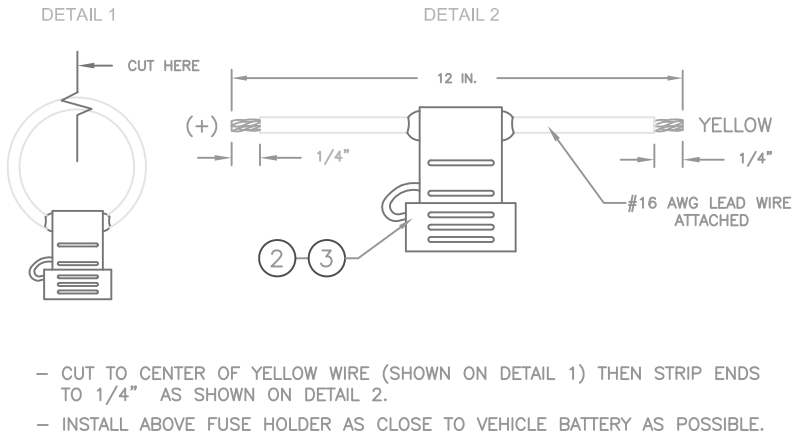

FIGURE 2
- 2. Install the dc power cable to the splitter box. Using the supplied barrel crimp (item 3), attach the fuse holder (item 2) as close to the battery as possible as shown in figure 2. (NOTE: Only use 3 Amp rated fuse on the A+ line for remote head power cords.)